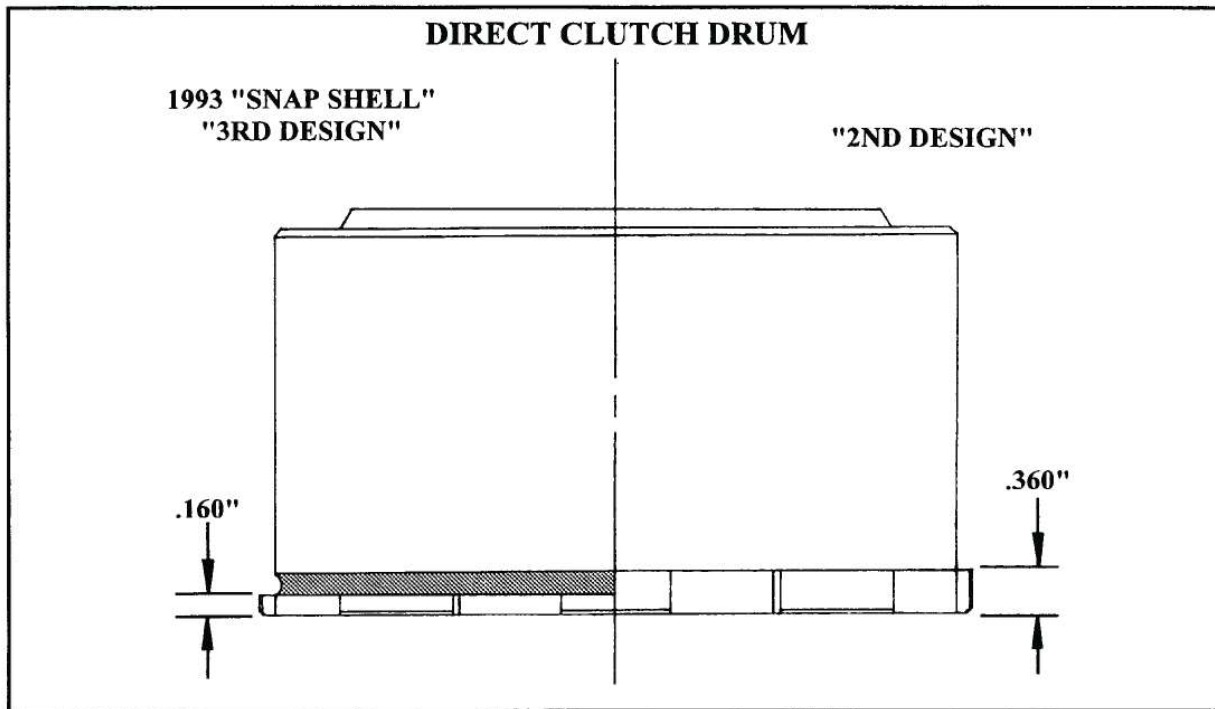
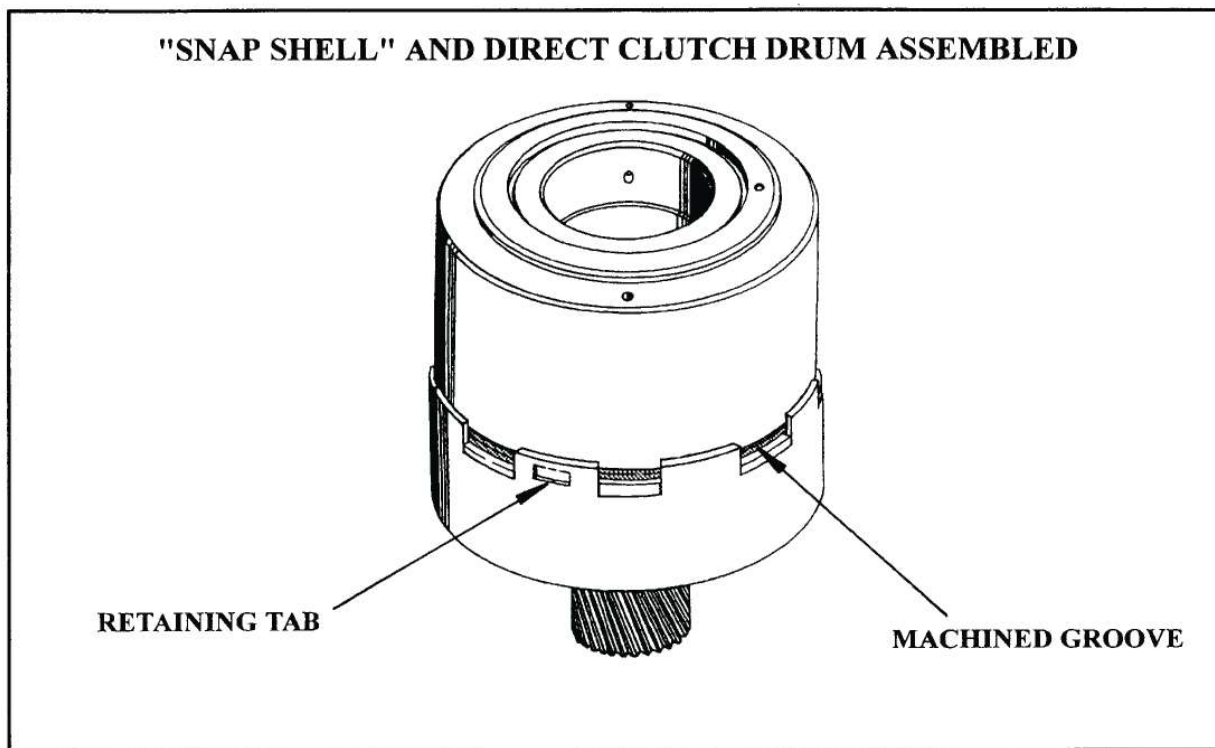

Figure 31
Figure 32
**2nd Change:** The "Lug" area where the direct clutch drum engages the sun gear shell, was machined approximately .200" thinner, and a .050" deep groove was machined into the drum to accommodate the added retaining tabs on the "Snap Shell" (See Figure 31). This now allows the sun shell and the direct drum to "Snap" together for easier assembly (See Figure 32). This change also allows the elimination of the number 4 thrust washer, located between the direct clutch drum and center support.
- (3) The new design "Snap Shell" must only be used with the direct clutch drum that is machined to accept the retaining tabs (See Figure 31 and 32).
- (4) The "3rd Design direct clutch drum **WITH** the machined groove for the "Snap Shell" **WILL** retro-fit back to **ALL** previous models that do not use "Snap Shell" (Figure 31). The "1st Design" stamped steel direct clutch drum is not recommended for use.